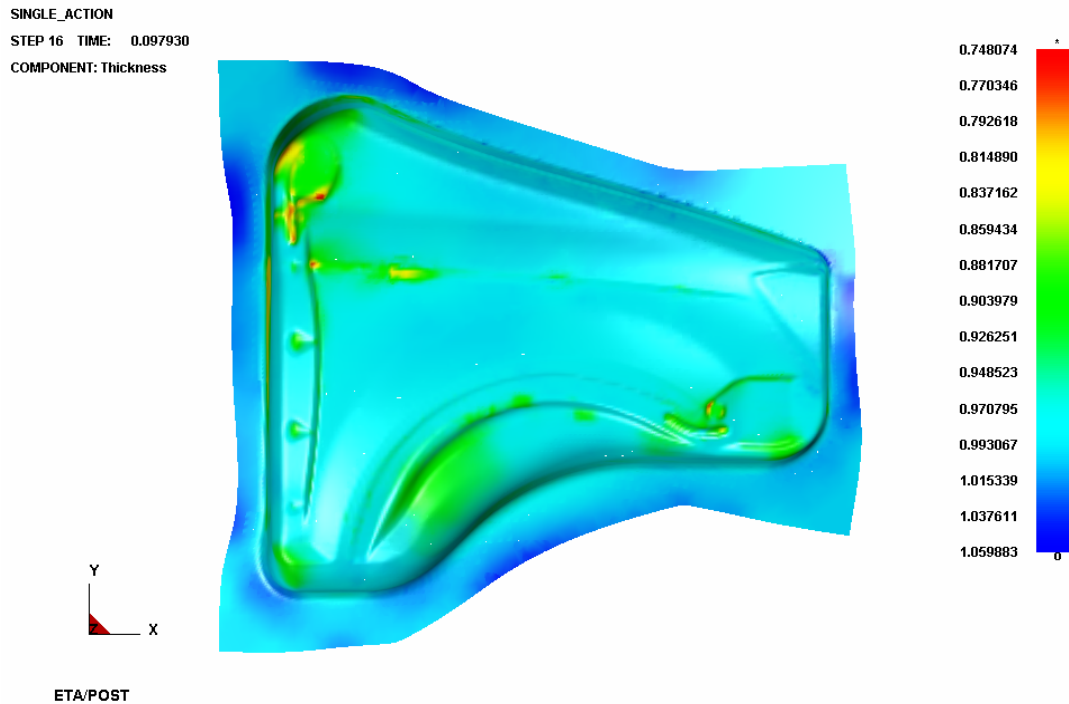

Figure 1.52 Thickness/Thinning contour
2. Select **Current Component** from combo box, either THICKNESS or THINNING. The thickness contour of deformed fender is illustrated in Figure 1.52.